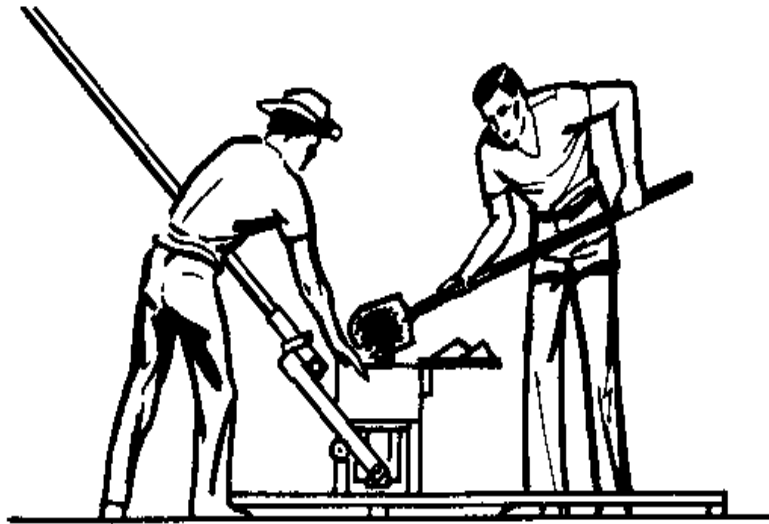

Fig. 8 - Filling the Box.
(1) Open the cover.
(2) Make sure the piston is all the way down. If it is part way up it will not be possible to get the correct amount of mixture into the box.
(3) Dump the proper amount of soil-cement mixture into the box (see Fig. 8). The supervisor